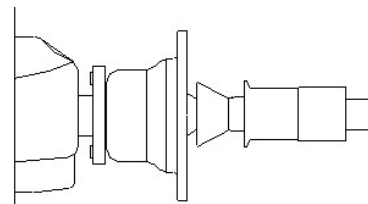

Figure 37 - 2 cones & clamping nut only
3. Place 2 cones followed by the clamping nut (no retainer) onto the shaft. Lift the pedal to clamp. See Figure 37.